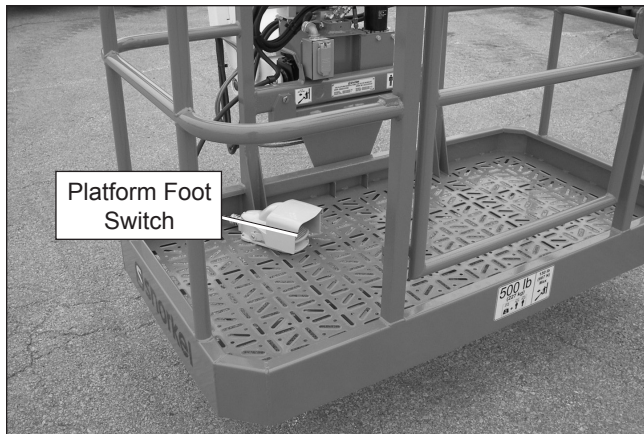

Figure 10.4 – Platform
3. Step down on the platform foot switch (refer to Figure 10.4).